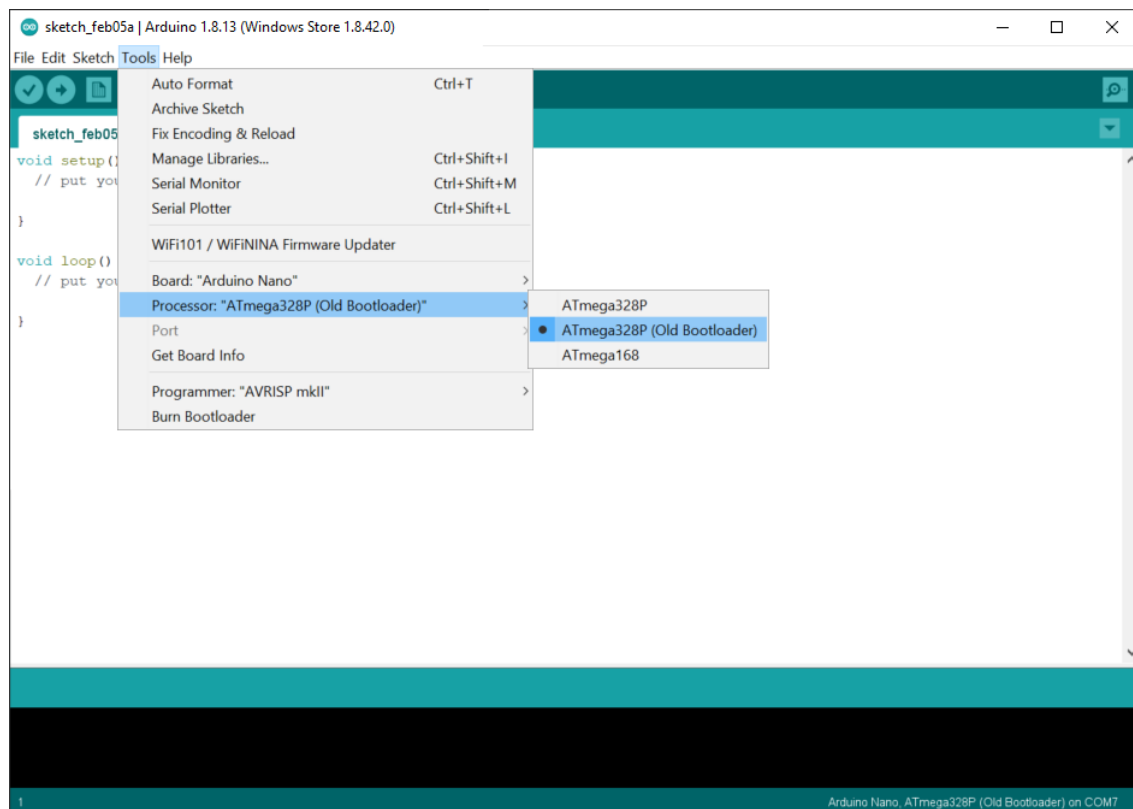

Figure 4. Arduino IDE with correctly configured processor and bootloader.
- (b) Configure the correct processor and the bootloader. Select: **Tools->Processor->ATmega328P (Old Bootloader)**. (see Figure 4).